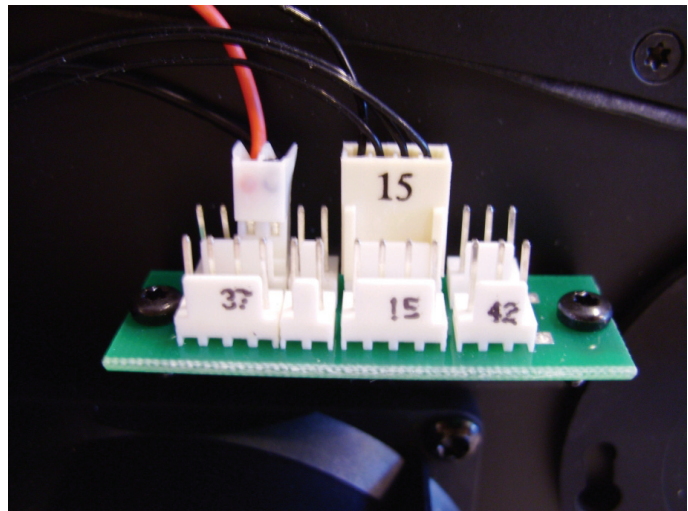

Figure 41
45. Disconnect all the zoom/focus module multi-connectors apart from number 15 connector and a connector at number 37 on the inner row on the right side of the head, leaving the connectors as shown in Figure 41.